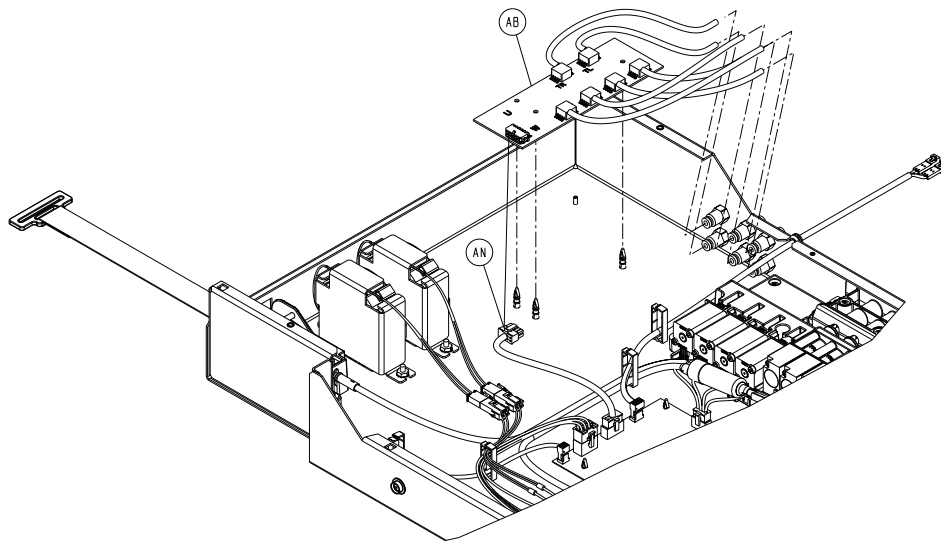

Figure 23 – Sensor board
4. Disconnect the cable (AN) from the sensor board (AB) (Figure 23).
5. Using needle nose pliers, lift up slightly, disconnect the sensor board (AB) from the three plastic standoffs (Figure 23).